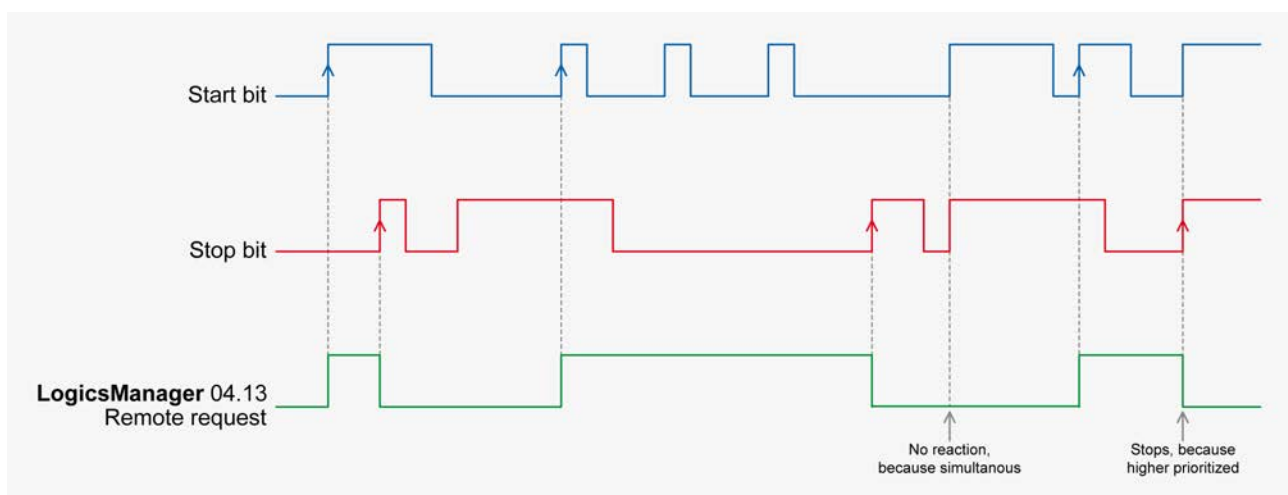

Fig. 182: Command variable
- The command variable "04.13 Remote request" changes to "0" (low) if the stop bit (ID 503, bit 1) changes from "0" to "1" ( Fig. 182).